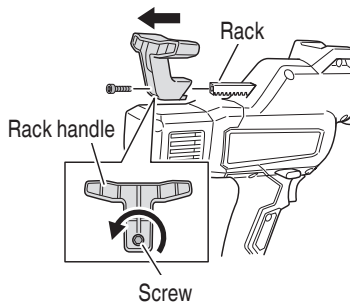

Fig. 11
- (2) Loosen the screw at the rear of the rack handle and remove the rack handle from the rack. (Fig. 11)